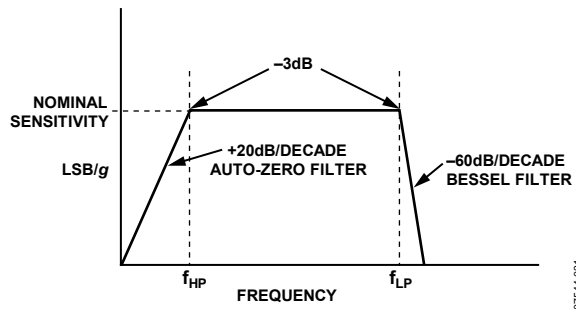

Figure 31. Bode Plot of ADXL180 Transfer Function
The three-pole, low-pass Bessel filter has a selectable  $-3$  dB corner ( $f_{LP}$ ). The corner can be set to 100 Hz, 200 Hz, 400 Hz, or 800 Hz by programming the filter corner (FC) bits in the configuration registers. In the pass band between  $f_{HP}$  and  $f_{LP}$ , the response of the ADXL180 is flat with the nominal scale factor defined by the settings of the range (RG) bits in the configuration registers (see Figure 31). The auto-zero function creates a first-order high-pass filter with a  $-3$  dB corner at  $f_{LP}$ . Note that the output of this filter is slew rate limited. The auto-zero function can be disabled by setting the appropriate bit in the configuration registers. See the Specifications section for more information.